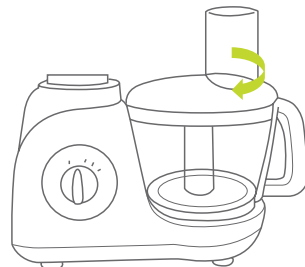

Fig. 3
4. Holding the cover by the feed tube fit the cover by rotating clockwise firmly until the cover bowl and the base unit interlock. (Fig. 3)